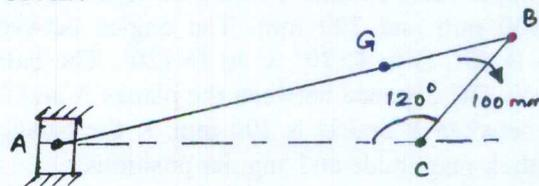

Fig.Q3
- An engine mechanism is shown in Fig.Q3. The crank  $CB = 100$  mm and the connecting rod  $BA = 300$  mm. With centre of gravity G, 100 mm from B. In the position shown, the crankshaft has a speed of  $75$  rad/s and an angular acceleration of  $1200$  rad/s2. Find velocity of G and angular velocity of AB, and acceleration of G and angular acceleration of AB.